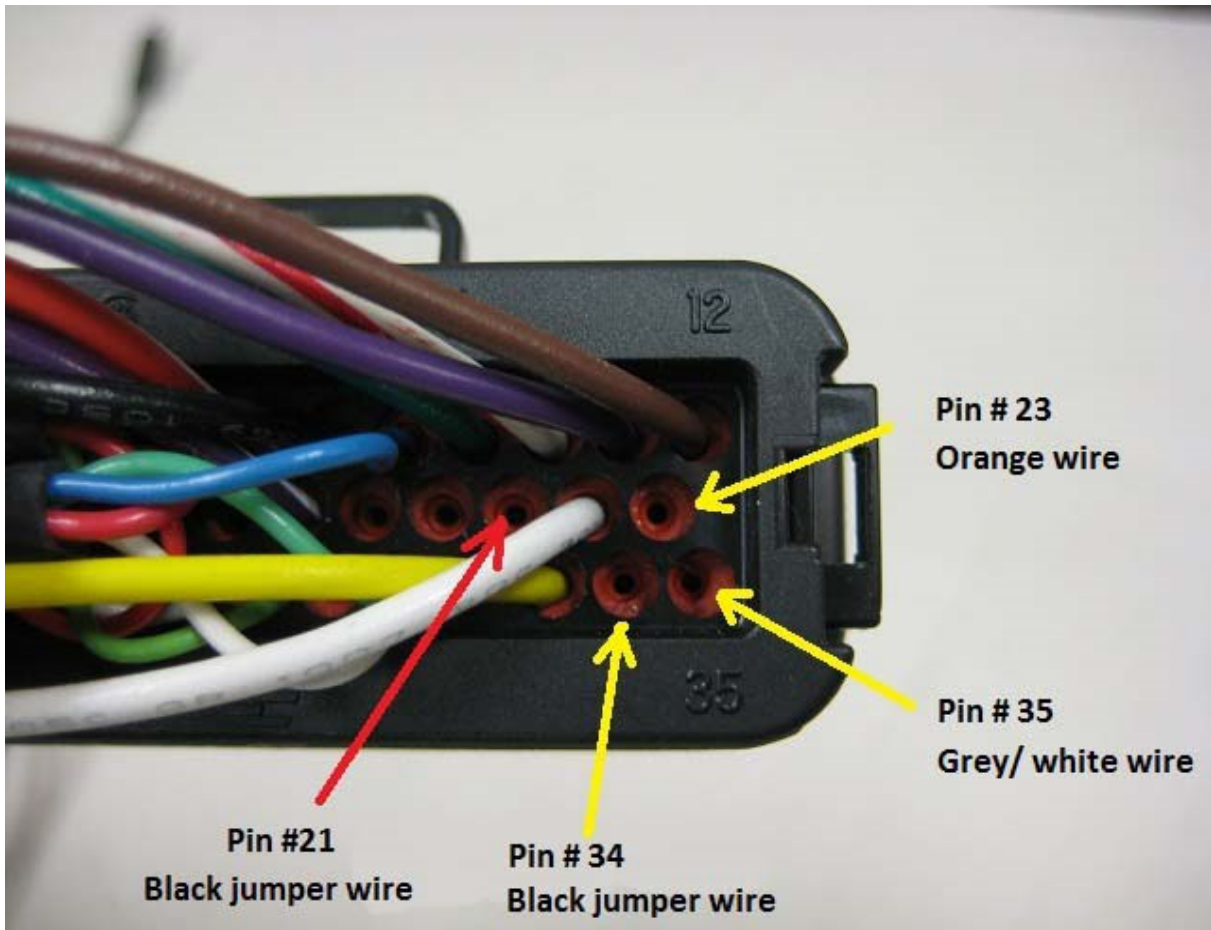

Fig. 29 – AMPSEAL connector CANBUS wire connections
2. The four pins need to be inserted into the 35-pin AMPSEAL connector that plugs into the controller. The black wire has two pins on each end. Those two pins are to be inserted into pin location 21 and 34. The CANBUS Deutsch connector has two wires that need to be inserted into the AMPSEAL connector. The orange wire will need to be inserted into pin #23. The grey wire on this connector will need to be inserted into pin #35. (Fig 29)